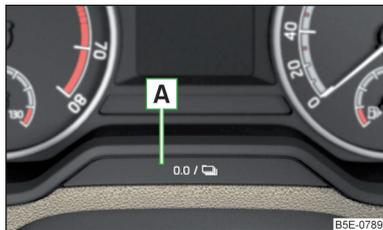

Fig. 23
- › Press button **A** › Fig. 23 on page 43.
- › Press and hold the button **A** › Fig. 23 until the time is shown in the display.